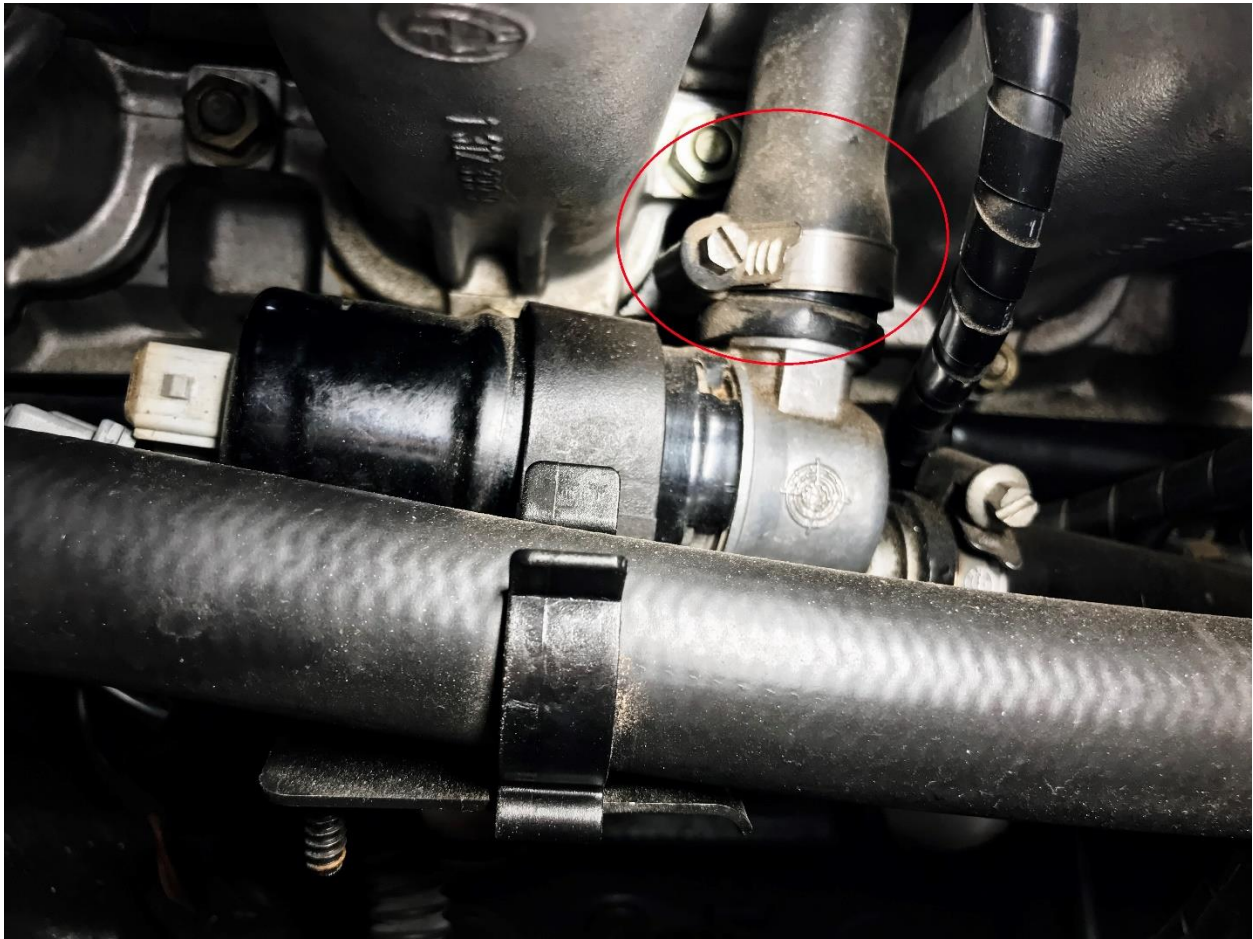

Figure 22
20. Next disconnect the idle air control hose at the idle air valve body. Remove the idle air control valve by pushing the retaining bosses on the bottom of the rubber mount together to free them from the mounting plate. It can be helpful to remove the clips and hose for the heater return line. This is just to aid in clearance. See Figure 22 (S38B36 shown).